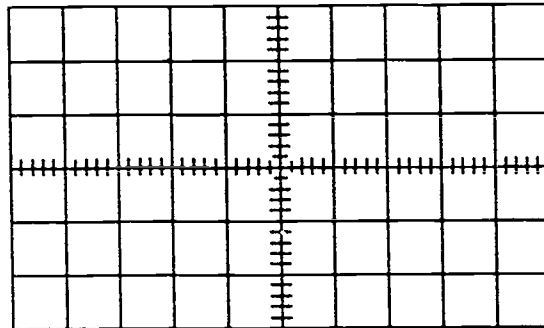

Figure M-8-8
5. Repeat step 4 with the switch at the mid position. Sketch what you see on Figure M-8-8, "Oscilloscope Grid--Mid Position."